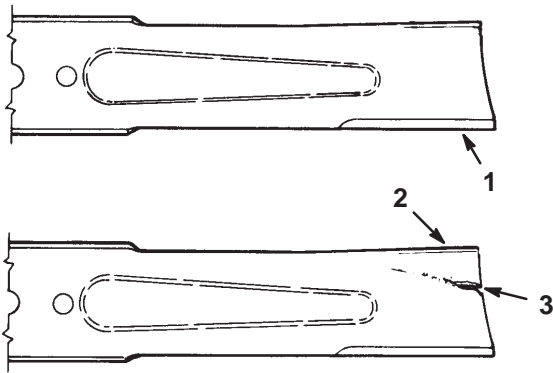

Figure 12
1. Inspect the cutting edges (Fig 12). If the edges are not sharp or have nicks, remove and sharpen the blades. Refer to Sharpening the Blades on page 14.
2. Inspect the blades, especially the curved area (Fig. 12). If you notice any damage, wear, or a slot forming in this area (Fig. 12), immediately install a new blade.